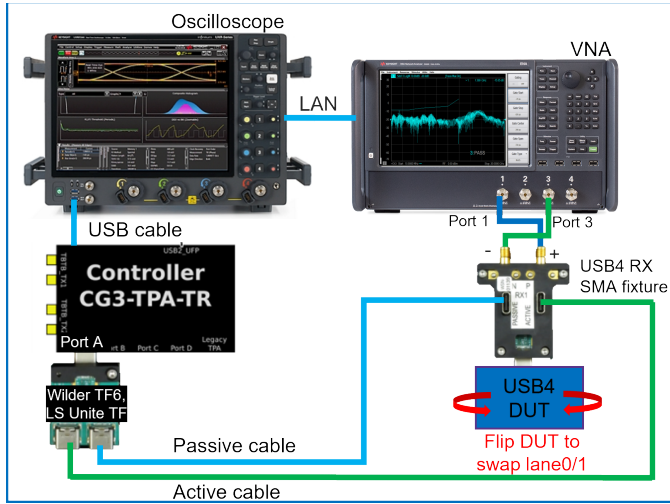

Figure 170 Tx Return loss test setup with Rx SMA test fixture
- 1 For the physical connections between the DUT & the Oscilloscope, see the connection diagrams in Figure 170 and Figure 171.